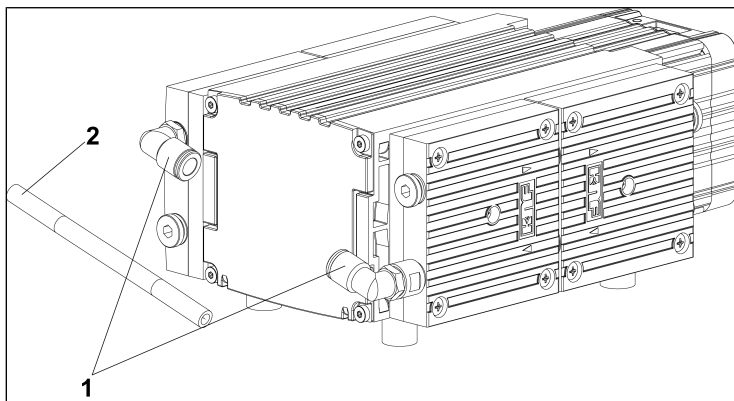

Fig. 4: Disassembly of the connection
1. Disconnect the connection tubing (**2**/Fig. 4) by pressing and holding down the release ring (**1**/Fig. 4).
2. Carefully pull the connection tubing (**2**/Fig. 4) out of the fitting.
1. Push the connection tubing (2/Fig. 4) into the fitting as far as it will go.